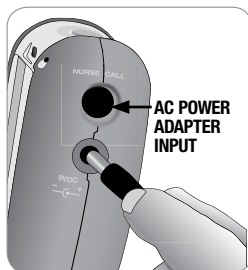

Fig. 9
1. Connect the AC power adapter to the KeepSafe Deluxe (Fig. 9).